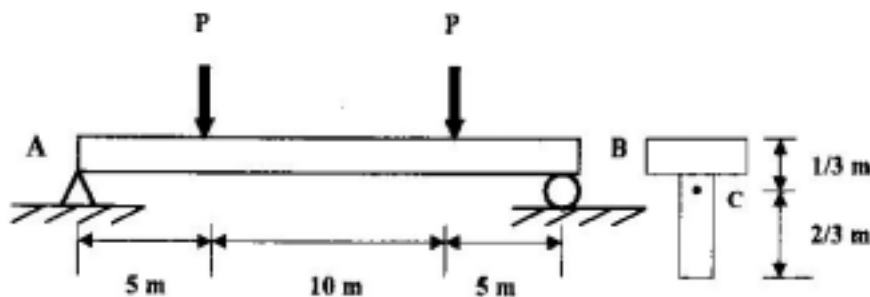

Figure 2
2. The beam is made of a material having an allowable bending stress of $(\sigma_{allow})_c = 5 \text{ kpa}$ in compression and $(\sigma_{allow})_t = 15 \text{ kpa}$ in tension. The cross section of the beam is a T type with the moment of inertia $I = 2/3 \text{ m}^4$ and the centroid of cross section C shown in figure 2.